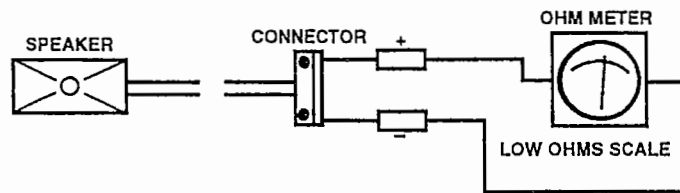

Figure 17
3. Check the speaker using an OHM meter. The reading should be 5 to 10 OHMs, see Fig. 17 below.